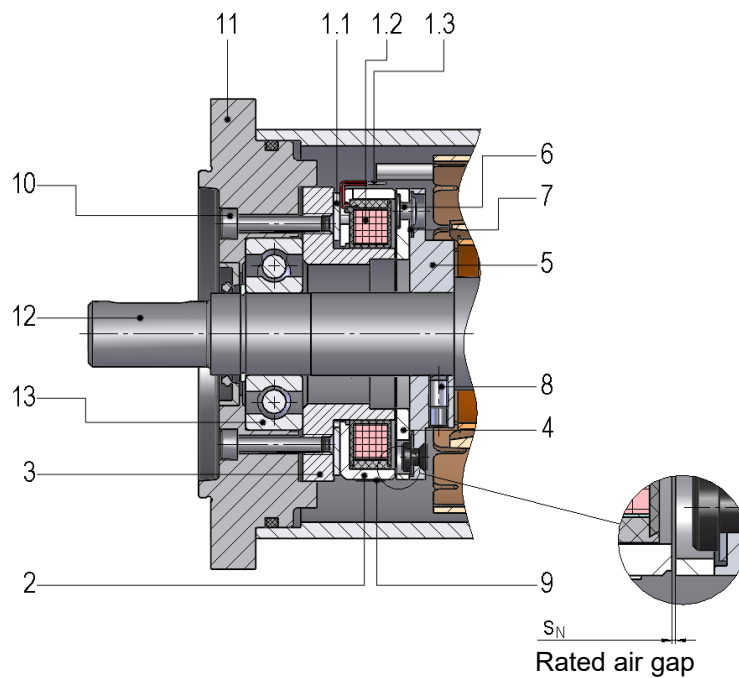

Fig. 13/1: Permanent-magnet single-face brake 86 611..H00 with armature 300
**List of reference numerals in Fig. 13/1:**